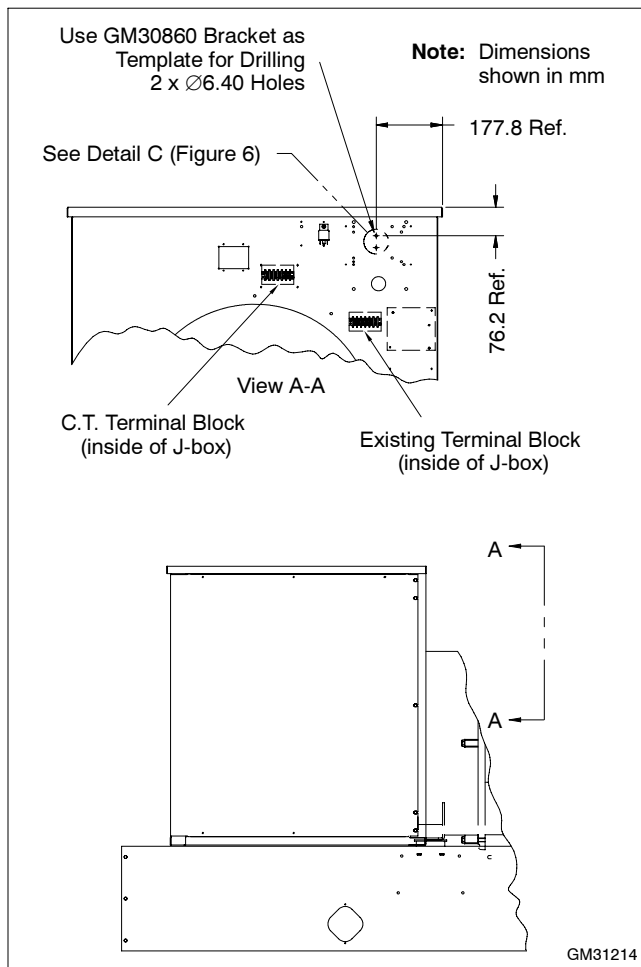
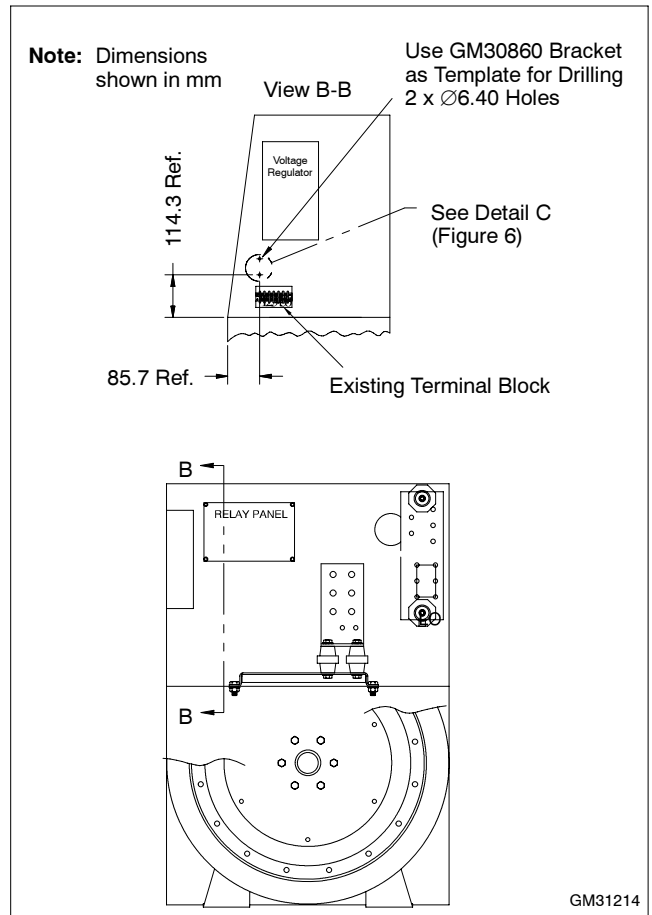
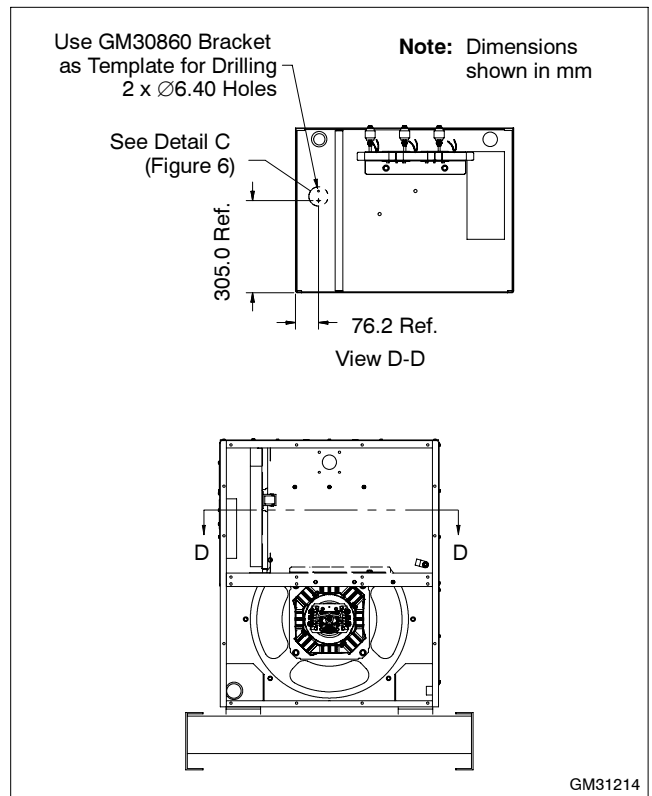

Figure 2 Kit GM31214-KA1, 80-300 kW
Figure 3 Kit GM31214-KA1, 350/400 kW
Figure 4 Kit GM31214-KA2, 450/500 kW
- 2.2 Select a location on the junction box for mounting the kit. Recommended locations are shown in Figure 2, Figure 3, and Figure 4.